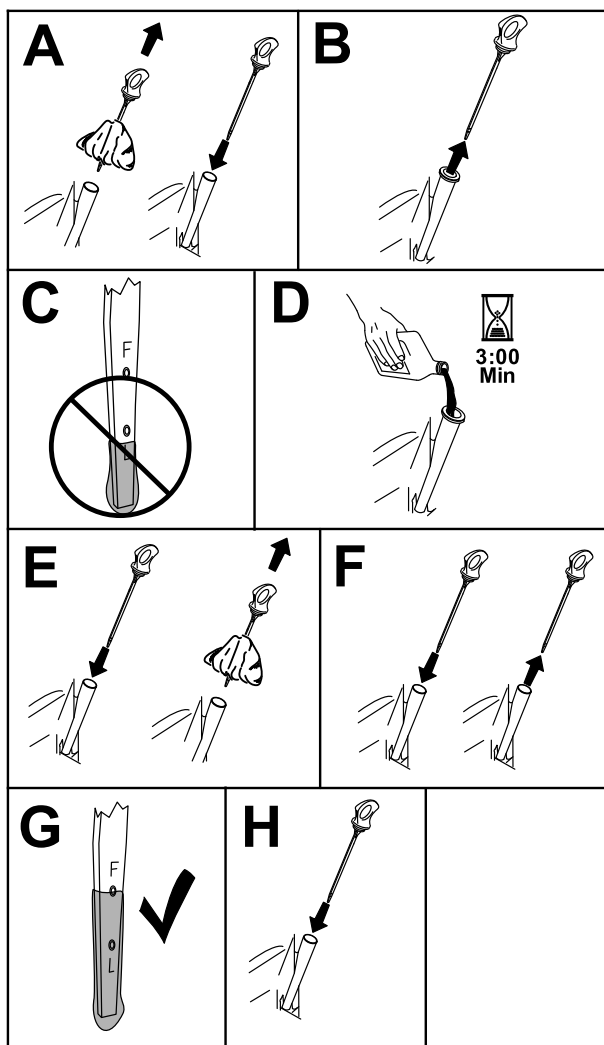

Figure 34
3. To keep dirt, grass clippings, etc., out of the engine, clean the area around the oil-fill cap and dipstick before removing it (Figure 34).